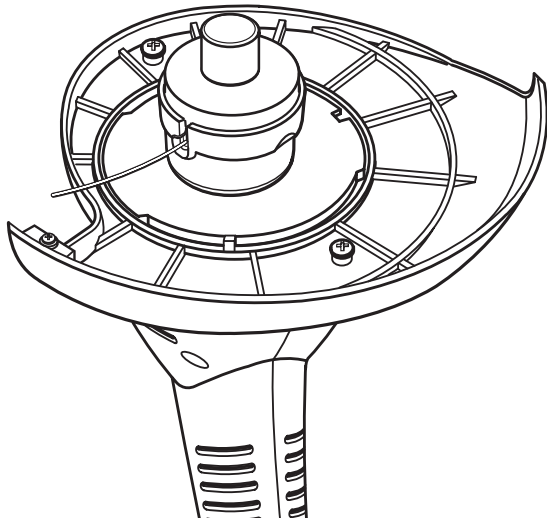

Fig. 14
- Completely assembled string head should appear as shown. See Figure 14.